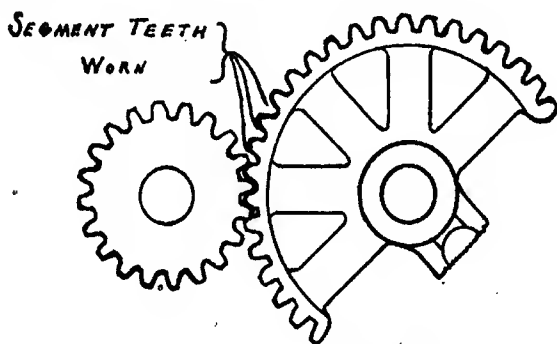

FIG. 34.—ENLARGED VIEW OF PINION AND SEGMENT OF STEAM GAUGE.
(2) The other cause of the gauge sticking is that the teeth on the pinion and segment have become worn from the vibration of the gauge (Fig. 34). The worn teeth are